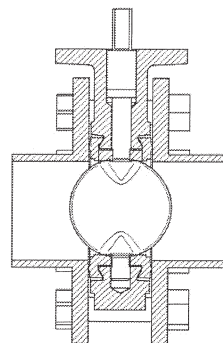

FIGURE 3. VALVE IN FULL OPEN POSITION
- Step 7. Slowly open the valve to the full open position (Figure 3) and back to the partially open position ensuring that the disc moves freely without any obstruction. If no obstruction is encountered, return the valve to the full open position and hand-tighten all flange bolts using the bolt tightening sequence shown in Figure 4.